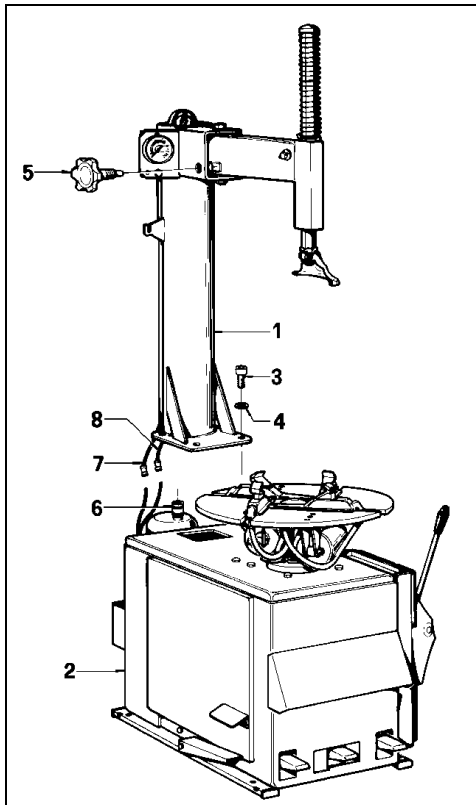

Fig.8
**B.** Assemble the adjustment knob (#5 Fig.8) to the tower.
**C.** Bolt the column (#1 Fig.8) to the cabinet #2 with the four screws #3 and washers #4. Screws must be firmly tightened.
**D.** Firmly tighten the clamp #6 Fig.8.